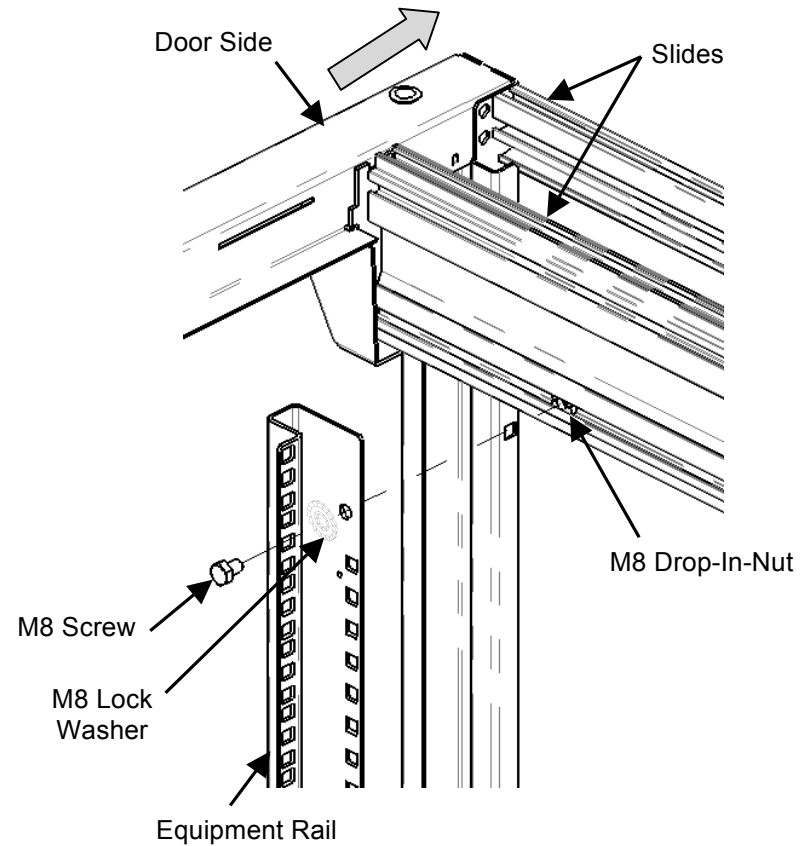

Fig. 6
2. Fasten rail using two M8 Screws and lock washers onto two M8 Drop-In Nuts in frame slides (Fig.6).